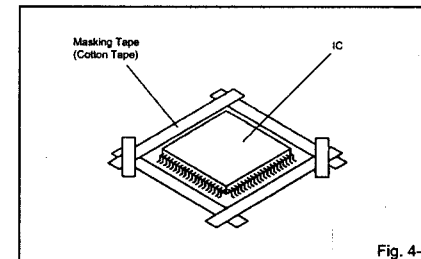

Fig. 4-1
- Put the Masking Tape (cotton tape) around the Flat Package IC to protect other parts from any damage. (Refer to Fig. 4-1.)